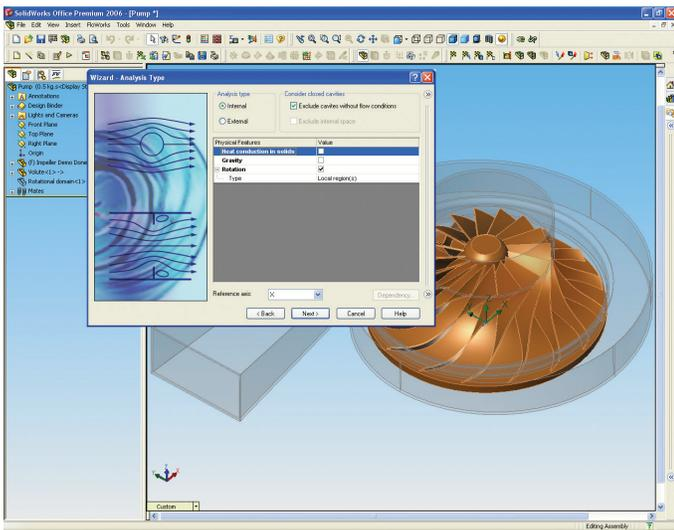

Figure 2: SolidWorks Flow Simulation uses a wizard-based interface to set up the flow analysis. The user chooses the configuration and unit system.
- The user selects the Setup Wizard from the SolidWorks Flow Simulation menu, and first chooses the configuration he wants for the analysis, as well as the unit system desired (Figure 2, above).